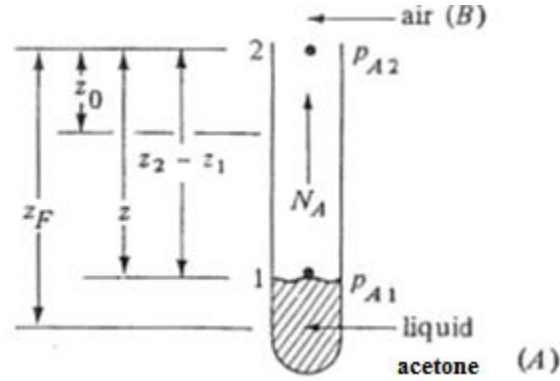

Figure 1: Diffusion of A through stagnant, nondiffusing B
In the case of diffusion of A through stagnant or nondiffusing B at steady-state, it is assumed that one boundary at the end of the diffusion path is impermeable to component B, so it cannot pass through. One example, shown in Figure 1, is in the evaporation of a pure liquid such as acetone (A) at the bottom of narrow tube, where a large amount of inert or nondiffusing air (B) is passed over the top. The boundary at the liquid surface at point 1 is impermeable to air, since air is insoluble in acetone liquid. At point 2 the partial pressure $p_{A2}=0$, since a large amount of air is passing by.
At a given time t , the level z from the top drops slowly as diffusion proceeds (Figure 1). The change in liquid level in a narrow tube can be derived by using the initial and final conditions of the liquid level. Pseudo-steady-state condition can be assumed since, level drops slowly. As time progresses, the path length z increases. Assuming a cross sectional area of 1 m^2 , the level drops dz (m) in dt (s) and $\rho_A(dz \cdot 1)/M_A$ (kmol of A that have left and diffused). Then,